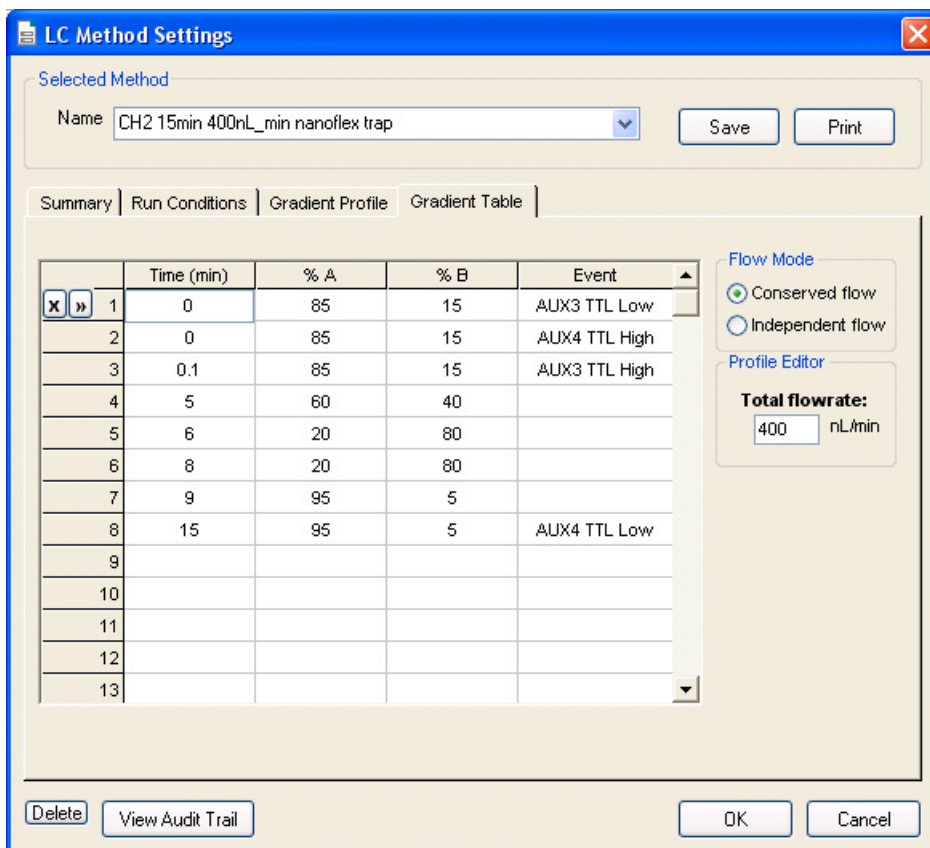

Figure 1-5 LC Method Settings dialog—Gradient Table tab (Nanoflex system)
4. On the **Gradient Table** tab, specify the method as shown in Figure 1-5 or Figure 1-7, depending on the installation.